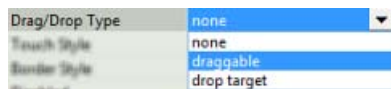

FIG. 215 Drag/Drop Type (General) property
2. In the Properties window (General tab), click on the Drag/Drop Type property to open the drop-down menu (FIG. 215): .